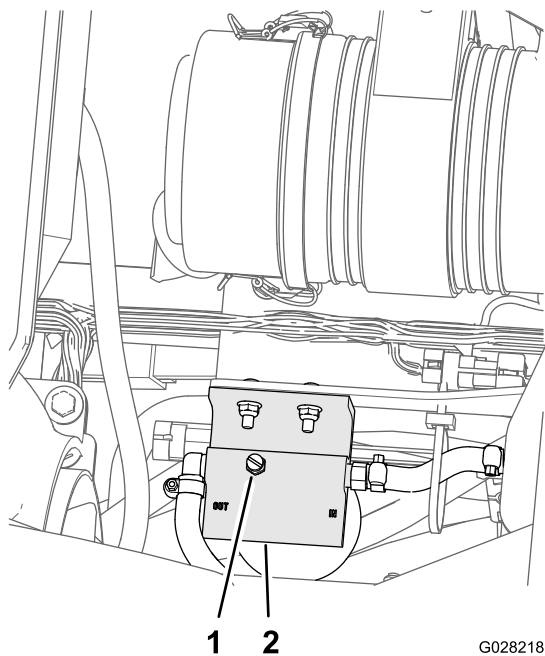

Figure 73
5. Loosen the vent plug at the top of the fuel/water separator (Figure 73).
7. Tighten the vent plug and turn the starter switch to the OFF position (Figure 73).